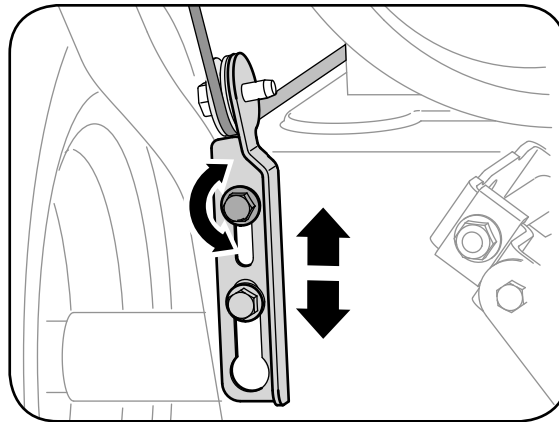

Figure 12
4. Allow the auger to remain engaged for approximately ten (10) seconds before releasing the auger control. Repeat this several times.
8. Position the bracket upward to provide more slack (or downward to increase cable tension). See Figure 12.